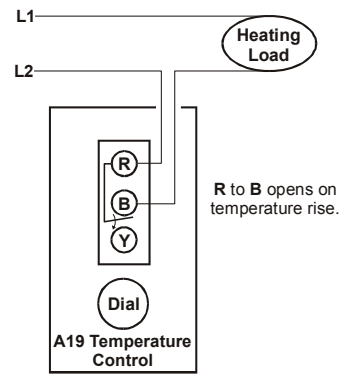

Figure 2: Standard wiring for heating applications
When the temperature at the sensing element rises to the setpoint, which you view on the dial setting, the switch between R and Y closes, and the switch between R and B opens on single-pole, double-throw (SPDT) models. See Figures 2, 3, and 4.
8. Make the wiring connections to the screw terminals. See Figures 2, 3, and 4.